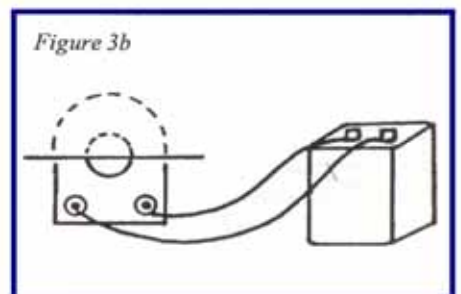

Figure 3b
3. **Connect the coil to the battery terminals** (see *Figure 3b*) using two of the clip leads.